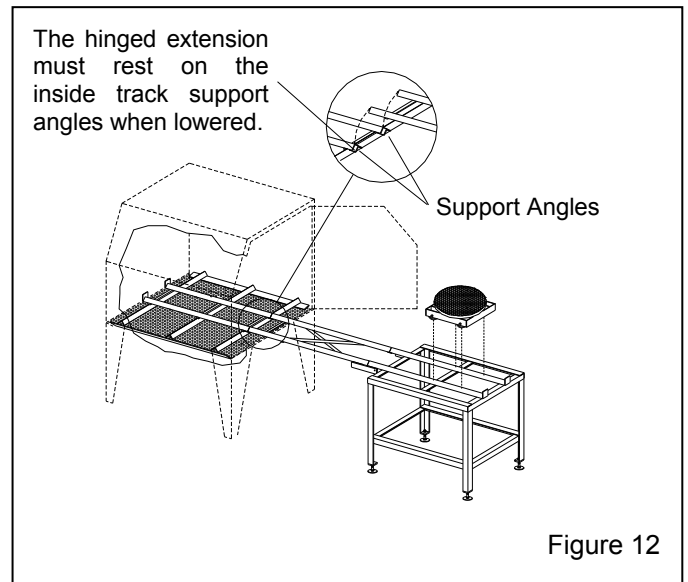

Figure 12
3.5.3 Position the track support table and extension as shown in Figure 12. When the hinged extension is lowered, the extension tracks must rest on the angled